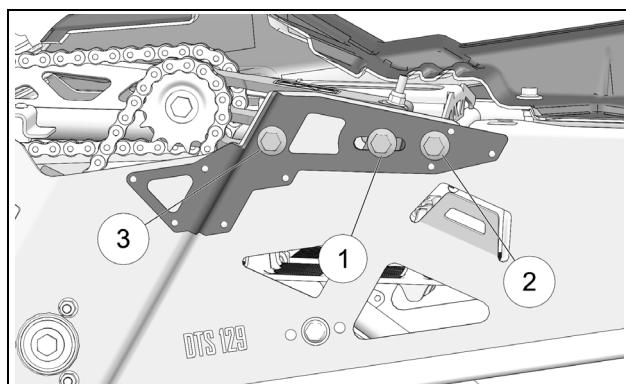

Figure 8
- Re-tighten in sequence chain tensioner mounting bolts (1), (2) and (3) to 125 N-m [92 lb-ft] of torque. See Figure 8.